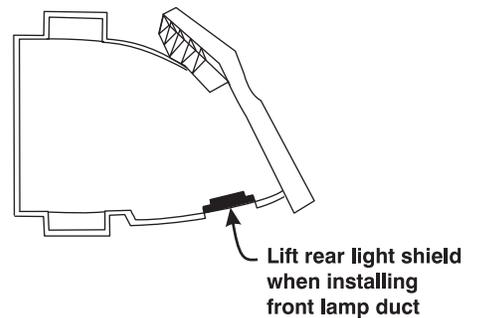

Figure 6-3 Light Shield on Front Lamp Duct
- 9. Re-install the front lamp duct. As you install the front lamp duct, lift the small light shield on the rear lamp duct cover so that it does not get jammed between the two pieces when they come together. **(Figure 6-3)** To ensure a good fit between the two pieces, squeeze the top and bottom cover snaps to ensure they are locked in place. The light shield should move freely to the touch.